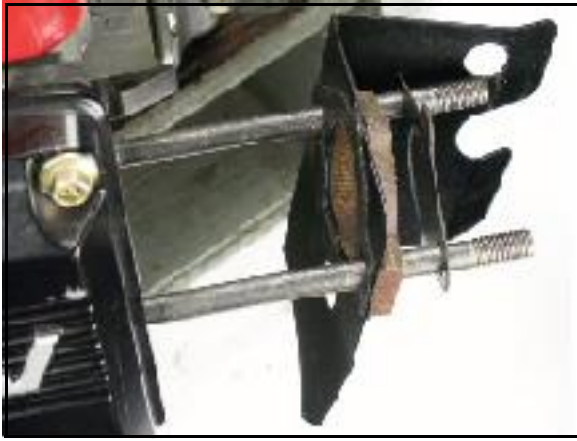

Fig. 20
2. While sliding carburetor on its mounting studs, install the governor link and anti-backlash spring (Refer back to Fig. 20).